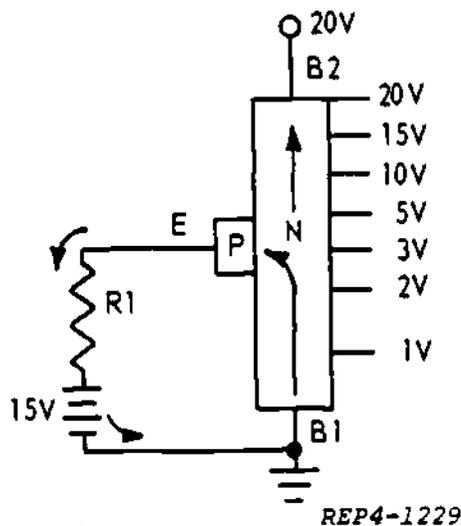

Figure 33-4. Pictorial Diagram of UJT Showing High Conduction (ON) Condition
Figure 33-4 represents the high conduction (ON) condition of the UJT.